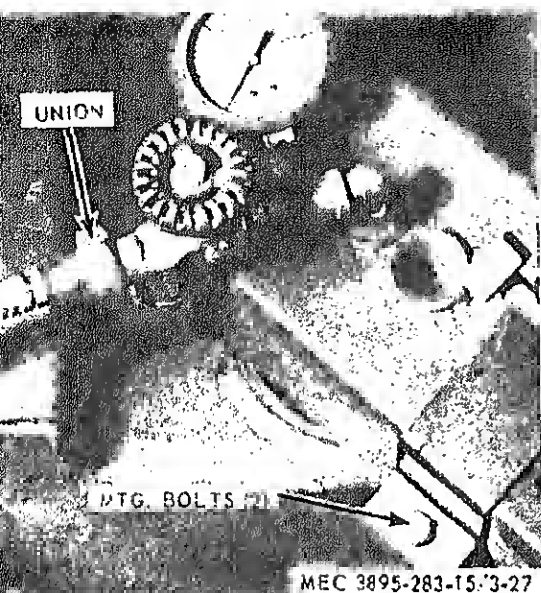

Figure 3-27. Asphalt Tank Burner Removal.
- (1) Disconnect fuel line ahead of strainer valve (fig. 3-27).
- (2) Loosen the two bolts holding the clamp and slide the clamp down on the blower extension.